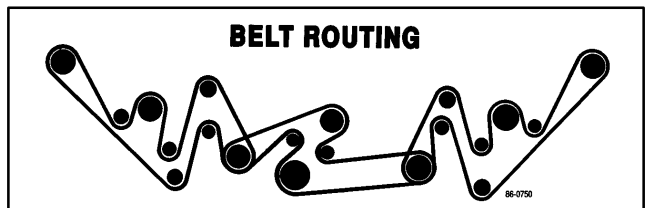

Figure 72
10. Route new belt around appropriate pulleys as shown in figure 72.